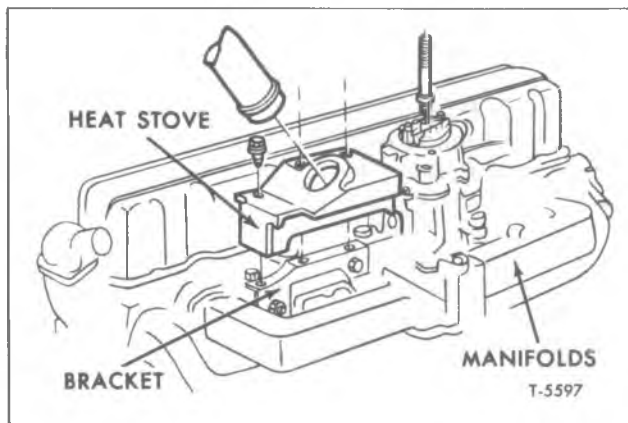

Figure 11—Manifold Heat Stove Installation (In-Line Engine)
6. On engines with sheet metal heat stove, remove the attaching screws, and remove stove parts (fig. 11) from exhaust manifold.